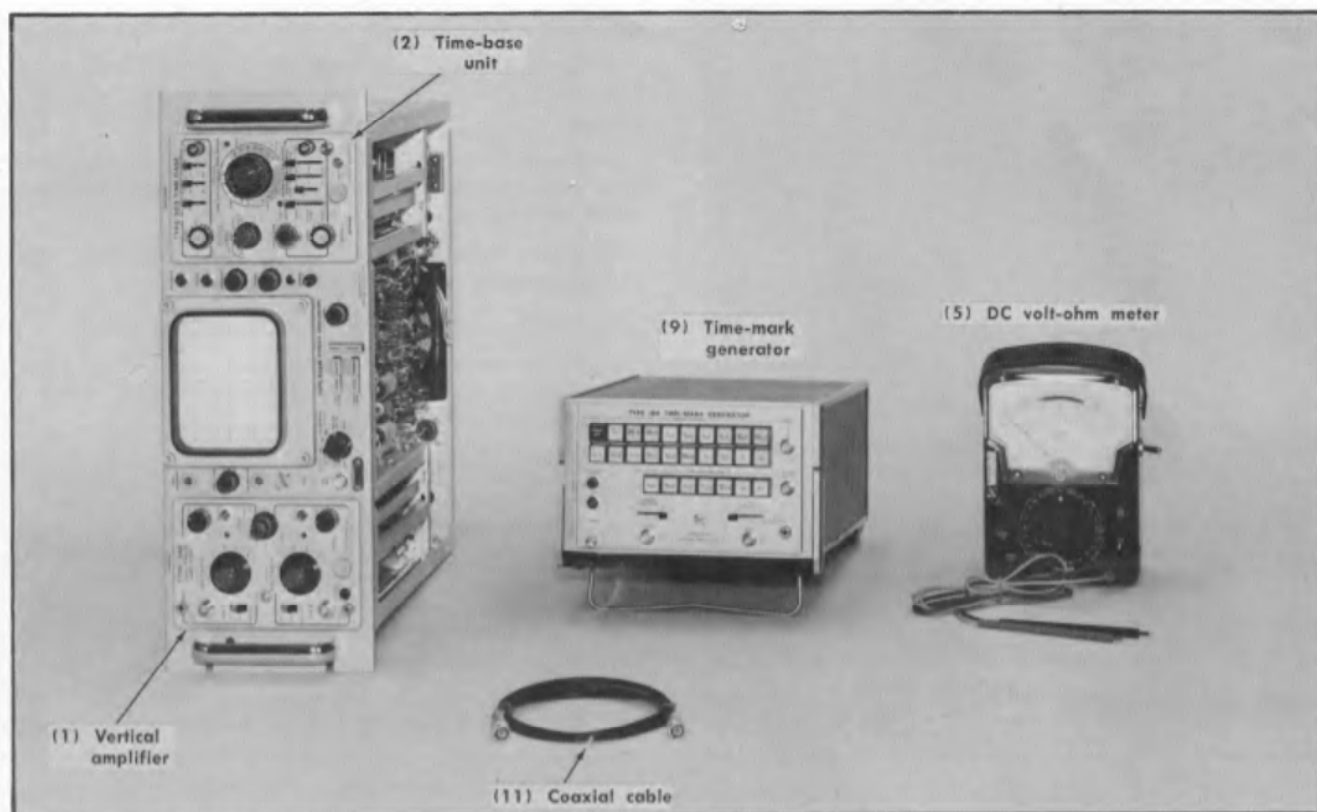

Fig. 5-21. Test equipment required for steps 23 through 32.
23. Adjust Flood Gun Bias ①
a. Test equipment required for steps 23 through 32 is shown in Fig. 5-21. The illustrated equipment is keyed to that listed under Test Equipment Required.